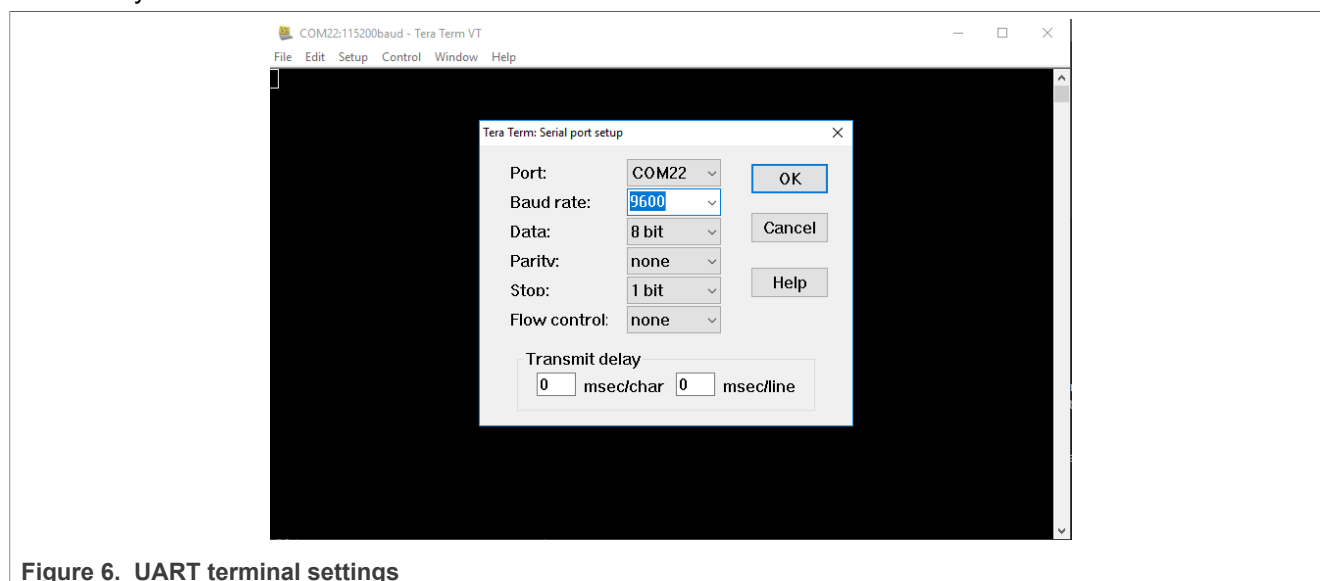

Figure 6. UART terminal settings
2. Connect the onboard debugger to the PC and open the terminal tool for UART communication with the configuration shown in Figure 6: